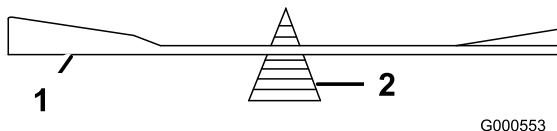

Figure 66
2. Check the balance of the blade by putting it on a blade balancer (Figure 66).